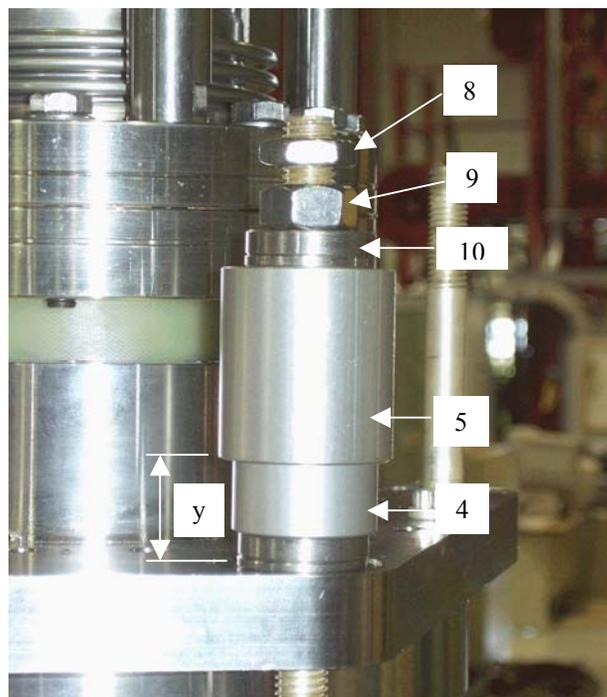
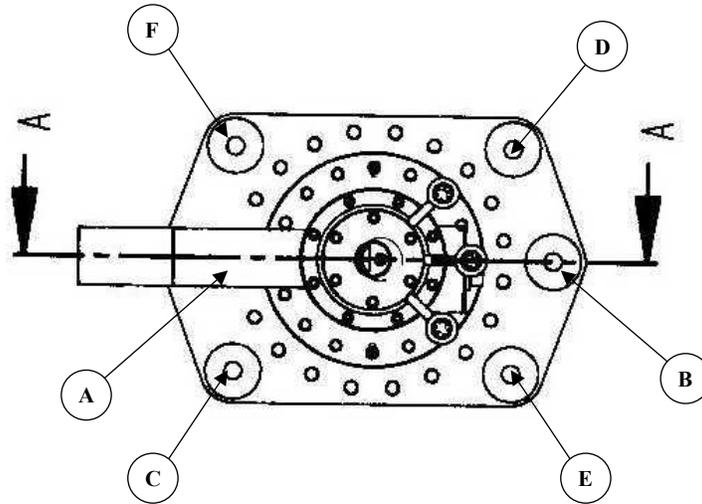

Figure 1.31a An installed Belleville washer assembly.
Figure 1.32.2 The specified sequence for tightening the Belleville washer assemblies.
- 1.28** Install Belleville washer assemblies on each tensioning stud per Figures 1.31a and 1.31b. A spherical washer must be placed below the Belleville washer holder on each stud. In the figures: Items 11 (10 per assembly) are Belleville washers, arranged as shown; Items 6 (2 per assembly) are flat washers; Items 4 and 5 are the Belleville washer holder lower and upper halves, respectively; Items 10 (2 per assembly) are spherical washers for above and below the washer holder; Item 9 is a loading nut; and Item 8 is a jam nut.
1.29.2 Tighten the 6 loading nuts finger-tight. With adjustable parallels, measure and record the gap 'y' indicated in Figure 1.31a between Item 5 (Belleville washer holder upper half) and the power lead top flange at the 6 locations specified in Figure 1.32.2. Units are mm.
1.29.4 Using the sequence A through F in Figure 1.32.2, sequentially tighten the loading nuts ¼ turn until the total compression is 1.8 mm at each of the six locations. As each loading nut is tightened ¼ turn, check off the appropriate line.
1.29.5 Remove the adjustable parallels from under each Belleville washer assembly, then replace them and measure the final gaps 'y' in Figure 1.31a. Units are mm.